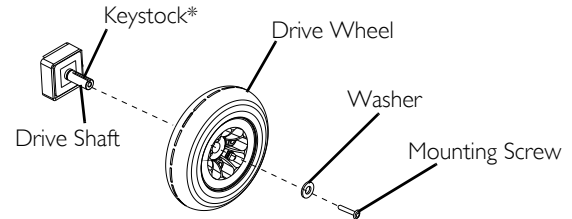

FIGURE 9.1 Removing/Installing the Drive Wheels
For this procedure, refer to FIGURE 9.1 on page 34.
1. Place keystone* in cutout on drive shaft as shown in FIGURE 9.1.